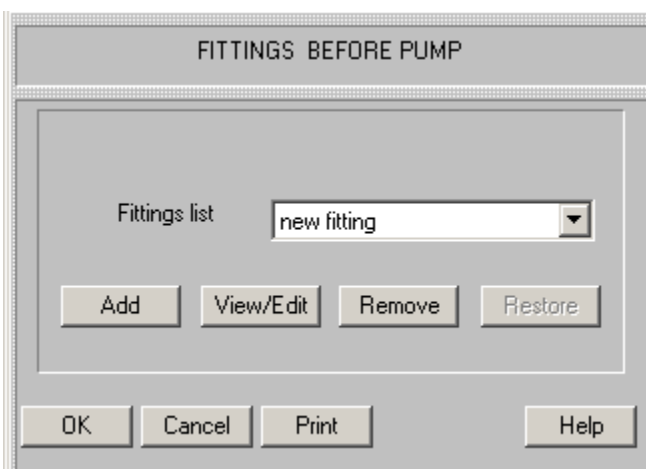

Figure 11.
To enter a fitting or valve placed **before pump** (Figure 11):
- To enter fitting or valve of a different type or size, click **Add** (Figure 11) and repeat the actions.